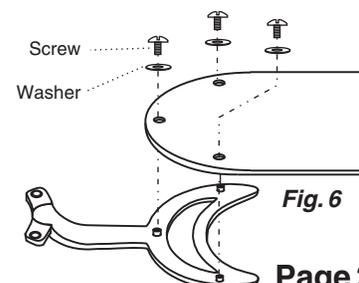

Fig. 6
B. Snap together blade and blade iron. Note the side of the blade you want to show. Using the 3/16"-32x5/16" blade screws and 9/16" washers, three of each per blade, secure blade to blade iron. Repeat this procedure with the rest of the blades. You will have at least one screw and one washer left over, these are spares. Be sure all of the screws are tight. Fig. 6